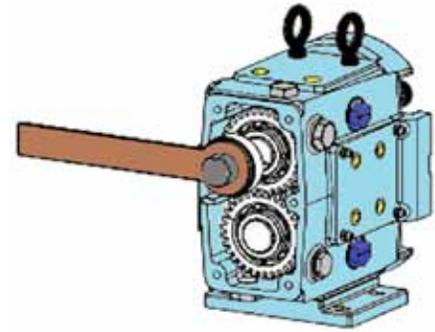

Figura 64 – Tightening Lock Nuts
6. Usa drift or spanner wrench apreta engranaje locknuts, Figura 64.